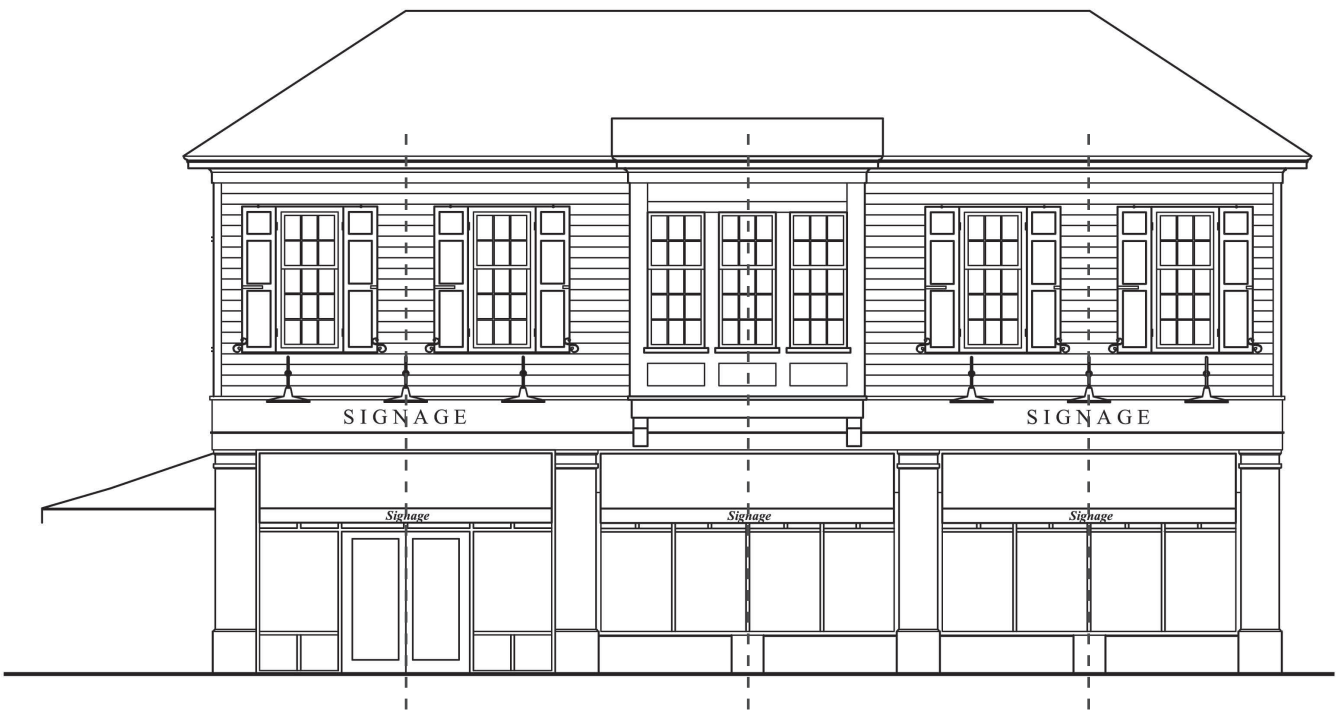

Figure 8
- » Bay windows on facades facing a street shall extend to the ground or be structurally or visually supported by brackets. See Figure 8.
- » Shutters shall be shaped, sized and proportioned to the windows they serve. See Figures 8 and 25.
- » Shutters shall be operable or provided with adequate hardware to make them appear operable and shall be mounted as if hinged to the window frame or brick surround. See Figures 8 and 25.